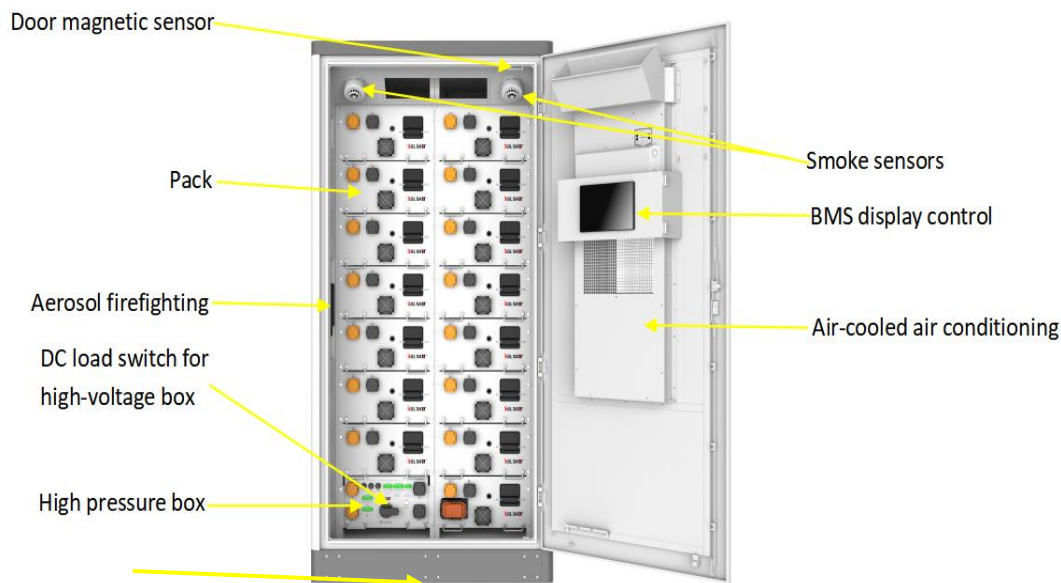

Figure 4.3 Battery Cabinet ESS-GRID 241C Distribution Switch Location Map
- 4) Referring to Fig. 4.3, break the DC load switch of the battery high-voltage control box and break the auxiliary power switch MCB1;